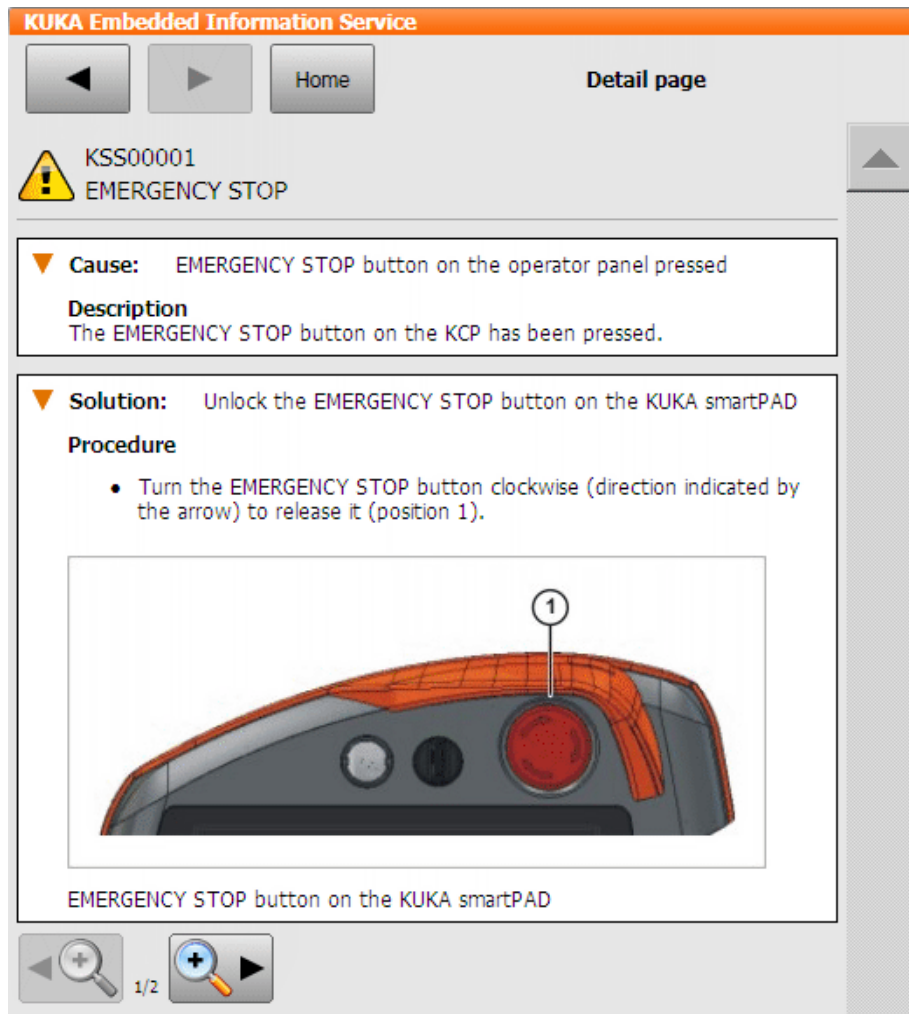

Fig. 4-11: Detail page – Example from the KUKA System Software
- a. Touch the magnifying glass icon next to the cause. The detail page is opened. (>>> Fig. 4-11)
6	Displays details about this cause/solution. (>>> Fig. 4-11)